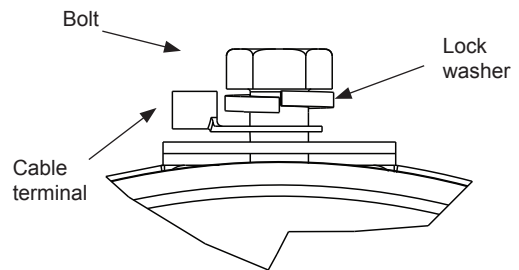

Figure 3: B-Terminal Hardware Stacking Order
7. Connect vehicle B- cable to alternator B- terminal. See Figure 2. Install cable hardware in stacking order shown in Figure 3. Torque B- terminal bolts to 14 Nm/10 lb. ft.